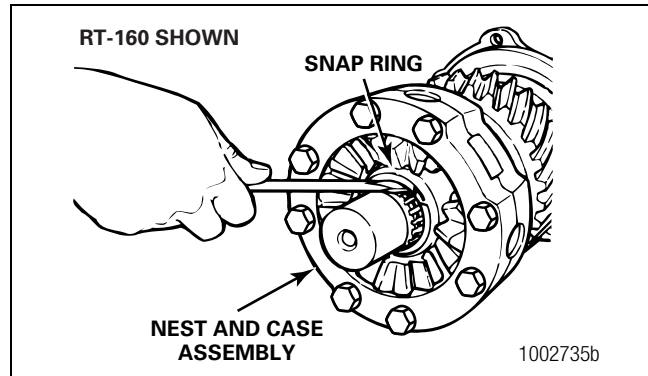

Figure 3.30
3. Remove the snap ring that fastens the inter-axle differential assembly to the input shaft. Remove the inter-axle differential assembly from the input shaft. Figure 3.30.